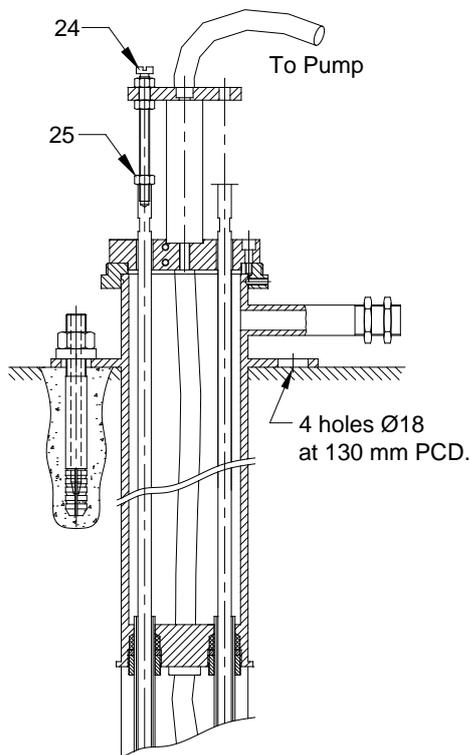

Figure 3.2 – Setting arrangement for 3 point BHE
3.3.11 Assemble cheese head screw (24) and locking nuts (25) as shown in figure 3.2. Slightly loosen hollow bolts (12) related to holes '1', '2' and '3'. Adjust end of connecting rod in required position and tighten the lock nuts (24). To set connecting rod ends, refer to table below: